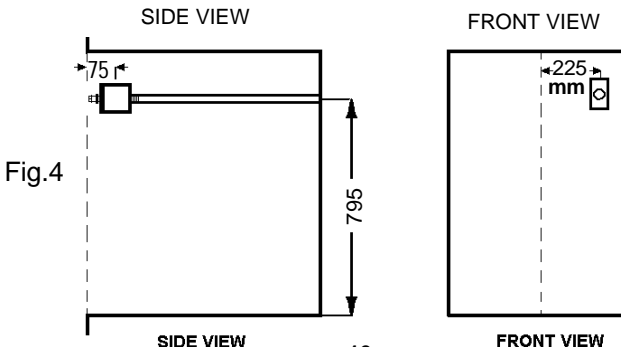

Fig.4
- 6 Install the gas supply pipe on site complete with the union elbow (See Fig.4). Note the orientation of the elbow, the connection must be upwards.